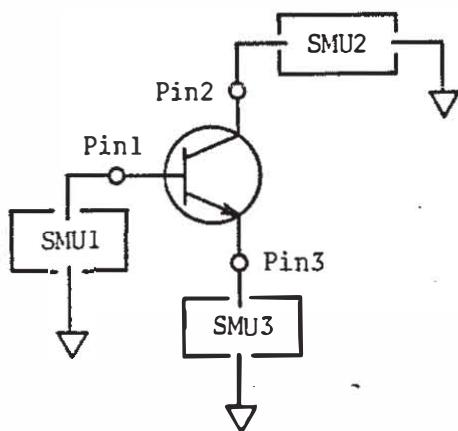

Figure 3-10. Sample Program for Measuring a Bipolar Transistor (Sheet 1 of 2)
3-42. Figure 3-10 shows a sample program that (1) establishes the port-to-pin connections necessary for measuring a bipolar transistor, (2) calls a user-written measurement subprogram, and (3) cancels all existing port-to-pin connections after the measurement. The Connect subprogram is used to establish the necessary connections, and the Swm_clear subprogram is used to cancel the connections.